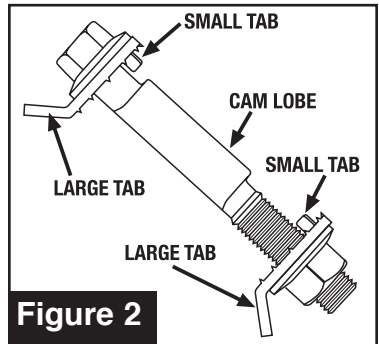

Figure 2
5. Place one tabbed washer on 84120 bolt with small tab facing control arm and install bolt. Place second washer over threads on bolt, again with small tab facing control arm and install nut. **Fig 2**.